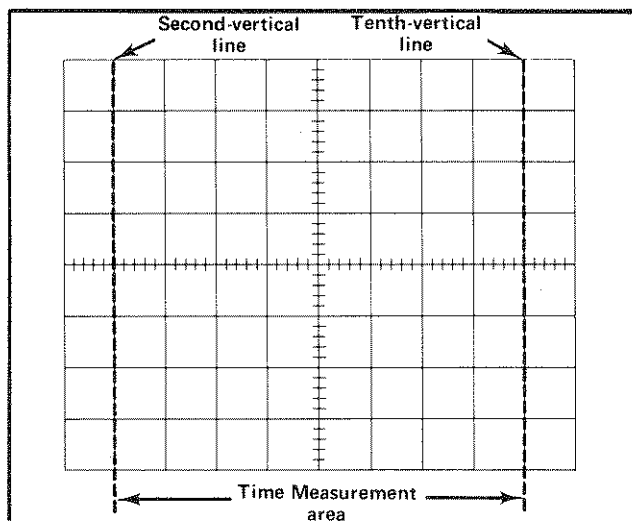

Fig. 1-8. Area of graticule used for accurate time measurements.
When making time measurements from the graticule, the center eight divisions provide the most linear time measurements (see Fig. 1-8). Position the start of the timing area to the second vertical line and adjust the TIME/DIV OR DLY TIME switch so the end of the timing area falls between the second and tenth vertical lines.
5. Set the TIME/DIV OR DLY TIME switch to the fastest sweep rate that displays less than eight divisions between the time measurement points (see topic entitled "Time Measurements" and Fig. 1-8).